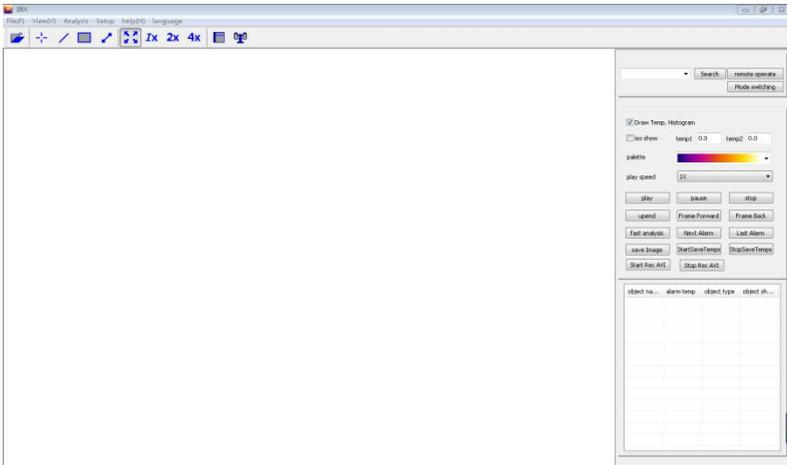

Figure 5-1
- 2) Open the “IRX.exe”. As shown in the figure 5-1.